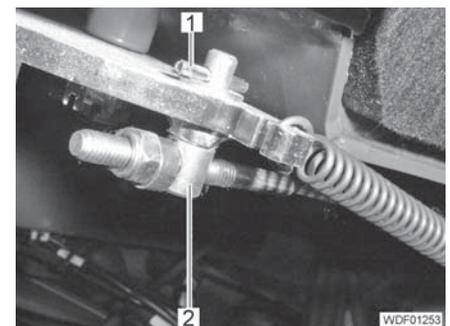

Fig. 244 Bowden cable on the hand-brake lever
- Insert the holder of the Bowden cable (Fig. 244,2) into the metal plate on the handbrake lever.
- Drive in the hollow dowel pin (Fig. 244,1) with washer into the holder of the Bowden cable.